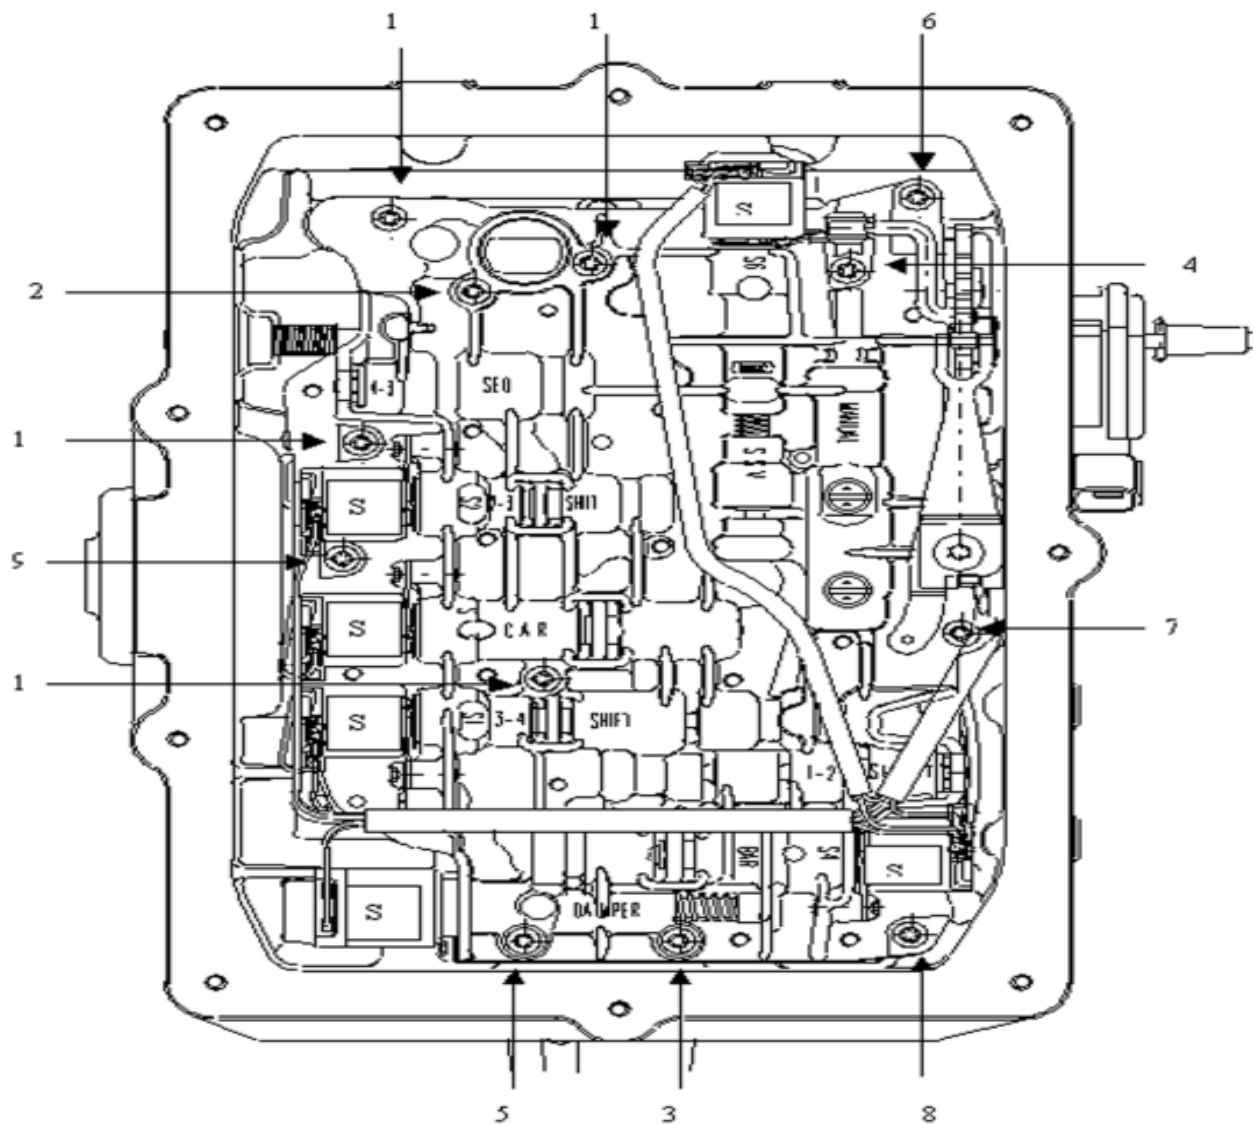

Figure 8.58 Tighten sequence of bolt form valve to box
- w. Adjust the valve on the transfer case and install the connection of manual-operated valve steering column and manual-operated valve. Make the long end of connecting object is proper for the 1st manual-operated valve. Install the protecting spring and tighten it according to the specification. Refer to Figure 8.58.
Refer to Figure 8.58.